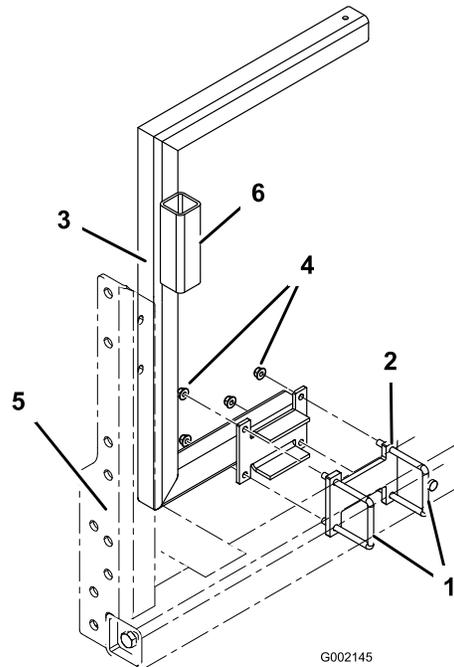

Figure 3
2. Install the right hose reel support (support with the spray gun holder tube on it) to the vehicle frame at the U-bolts and spacer installed previously (Figure 3). Secure the frames with 4 flange nuts (3/8 inch). The support should wrap around the rear end of the tank.